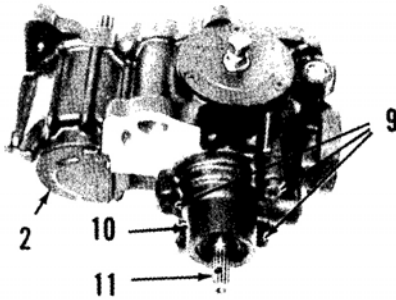
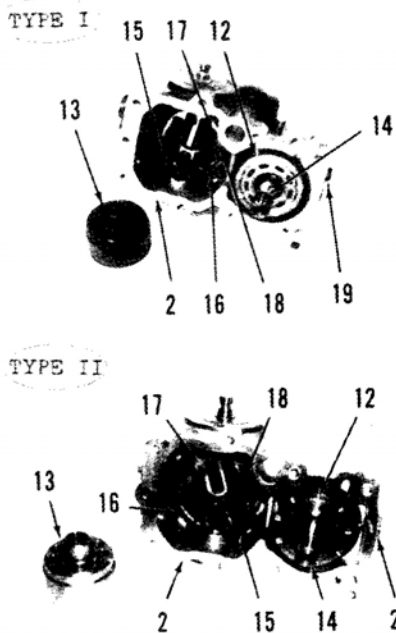

Fig. 58— Remove screws (9) and tap on rear of input shaft (11) with a suitable mallet to separate charge pump case (10) from transmission case (2).
Fig. 59—View showing rear of hydrostatic transmission with port block removed.
careful not to allow plates to fall free. Remove valve plates (7 and 8). Note that valve plate (7) with two notches (5) is located on pump side, while valve plate (8) with no notches is located on motor side. Remove screws (9—Fig. 58) securing charge pump case (10) to transmission case. Tap on rear of input shaft (11) with a suitable mallet to break charge pump case (10) loose from transmission case, then withdraw charge pump assembly along with the two dowel pins. Withdraw pump cylinder block (13—Fig. 59) from case (2). Remove circlip (18), then extract pistons (15) and retainer plate (17). Remove thrust plate which is
If clogged, blow lubricant hole (23) clear with compressed air. Inspect polished face of cylinder block (12 and 13—Fig. 59) for scratches and any other damage. Examine internal spring of cylinder block for cracks and broken coils. Inspect valve plates (7 and 8—Fig. 57) for scratches, corrosion, excessive wear and any other damage. Inspect charge pump case (10—Fig. 62) and trochoid rotor assembly (24) for scrat-
62) in case (10) so end of seal is 4 mm (5/32-inch) below outside surface. Install snap ring retaining oil seal (26) so square edge of snap ring faces out. Tighten screws securing case (10) to 11-14 N·m (8-10 ft.-lbs.) torque.
Cylinder block and pistons are assembled in reverse order of disassembly. Be sure to lubricate entire unit with clean hydrostatic fluid. Pump side circlip (18—Fig. 59) is installed with flat side or undistorted side towards retainer plate (17).